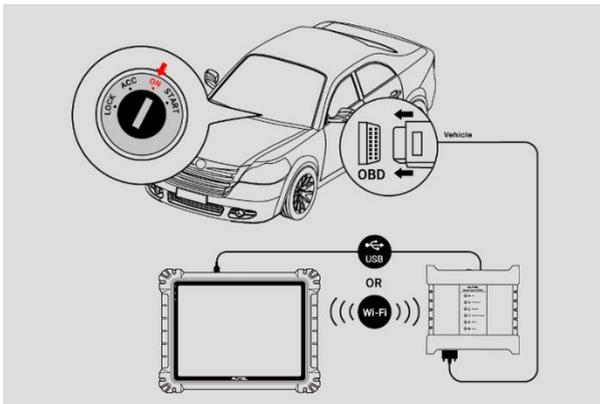

Figure 9-107 Connection Diagram
1. Please refer to Figure 9-107 Connection Diagram to complete the connection. Place the ignition in the key on position.